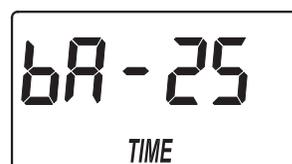

FIG. 26
1. If you completed the previous step, the backwash time adjust screen should show in the display (See Figure 26). Otherwise, press and hold for 3 seconds the SELECT button, until the display shows "000 - -", then press the SELECT button four times to display the backwash time adjust screen.